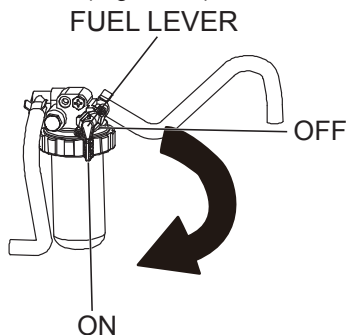

**Figure 14. Extending the Mast**
2. Turn the mast winch clockwise to raise the mast and observe that the mast begins to extend upwards (Figure 14).